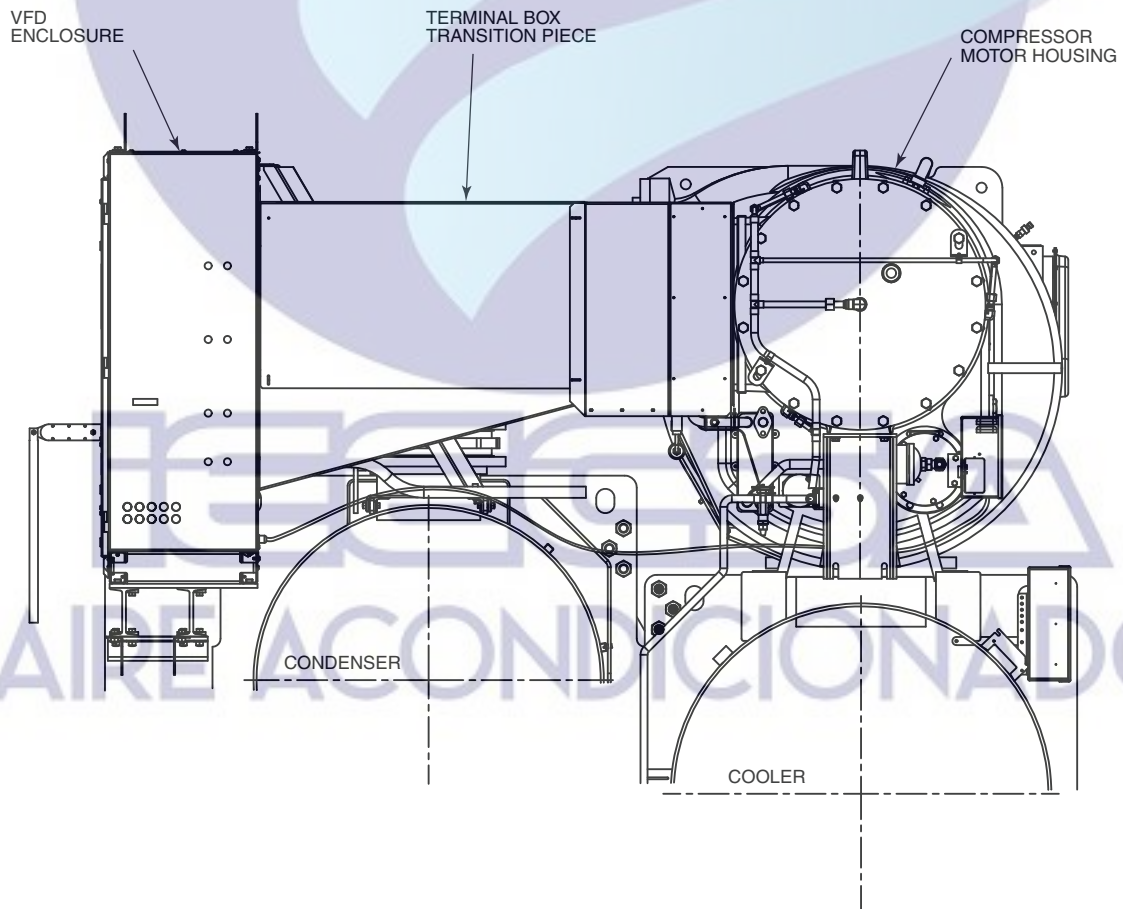

Fig. 23 — 900A or 1200A LF2 VFD or Standard Tier VFD (765, 855, 960, 1070, 1275, 1530A) Motor Terminal Box Transition Piece — Typical
3. Remove the terminal box transition piece. See Fig. 23.
7. Complete assembly of the motor terminal box transition piece after all power and ground leads are installed. The motor terminal box transition piece must be adjusted to completely cover the opening on the back of the VFD enclosure. See Fig. 23.